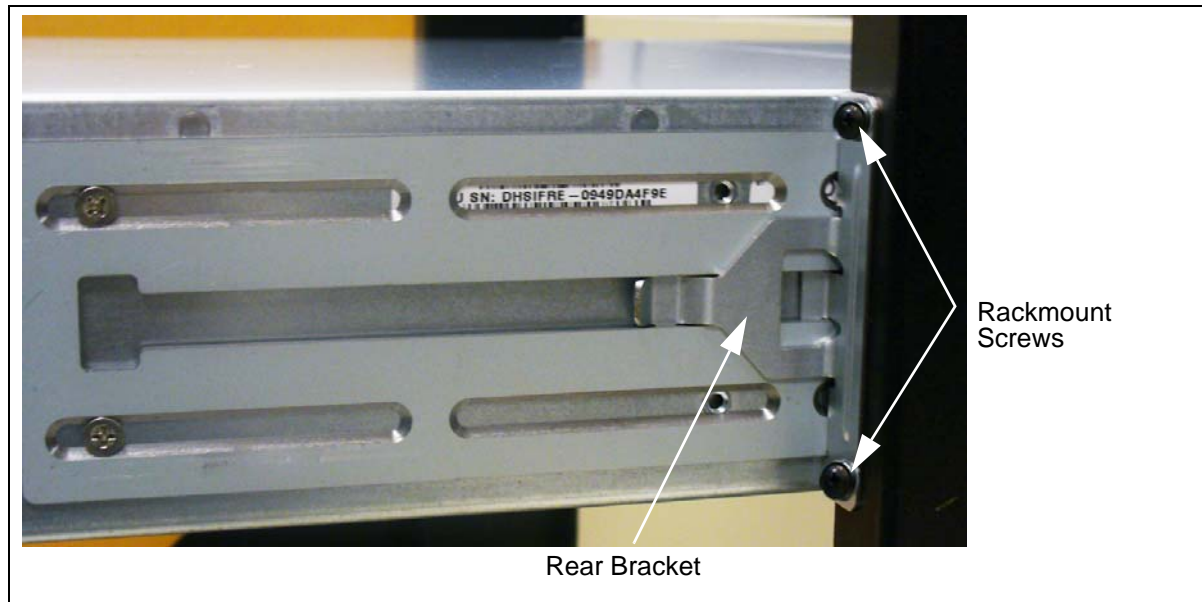

Figure 2.18 - Attaching Rear Bracket to Rack Post
5. Slide the rear brackets into place to align with the post's mounting holes (Figure 2.18). Secure the rear bracket to the post with two rackmount screws.